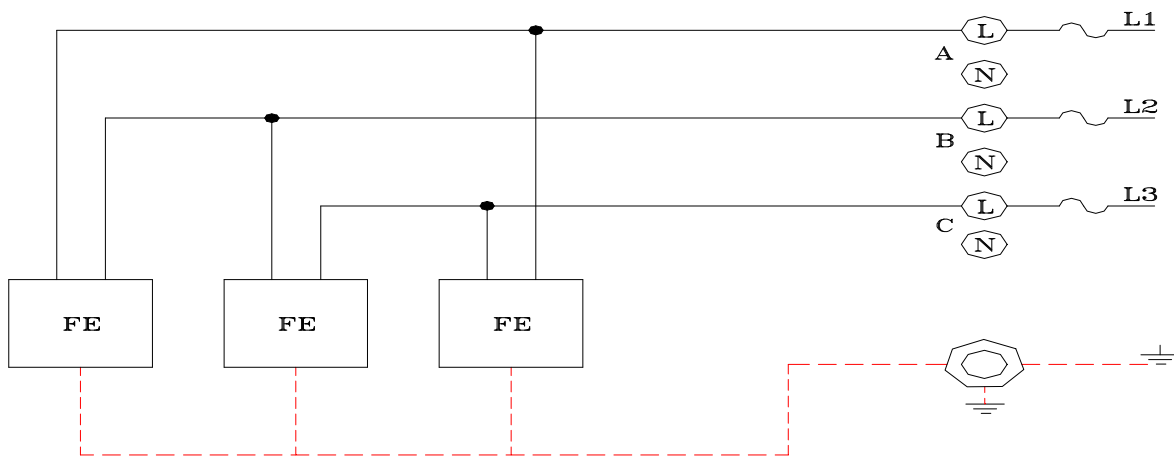

Figure 6. Three-Phase (Δ) Configuration L1, L2, L3, 120/208V Mains
The input AC section of the FE6K-XE or FE6K-NE is wired in a Δ connection, enabling full power of the FE power modules at low mains input voltage of 120/208 VAC. (See Figure 6.) An input AC section in three-phase (Δ) configuration is available on request. Modifications to the back plane in the field from (Y) to (Δ) configuration is not recommended.